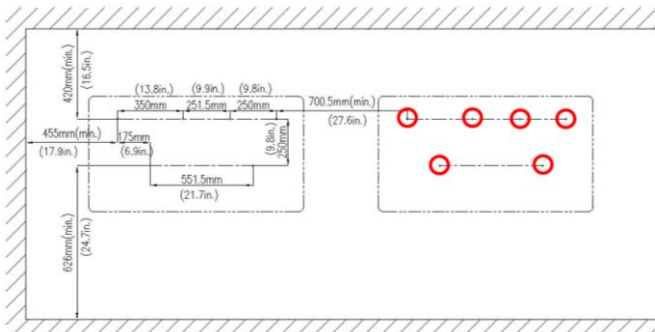

Figure 3-5 100/125 kW Distributed Wire Box Bracket Mounting Pattern
1. Mark six (6) holes on the wall or bearing surface for attaching the inverter mounting bracket (Figures 3-5 and 3-6):